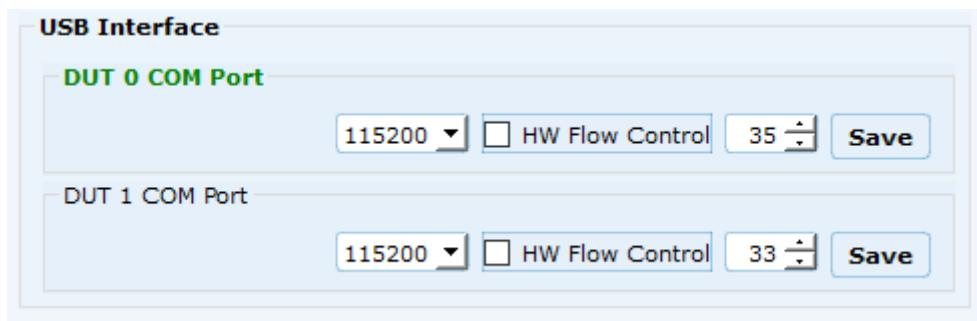

Figure 18. Virtual comport setting in RTX2254 (Pro-DK connected to DUT0)
- RS232 COM port: the virtual COM port, for example, COM35 (Figure 18).
- Baud Rate: 115200 (Figure 18)
- HW Flow Control: None (Figure 18)